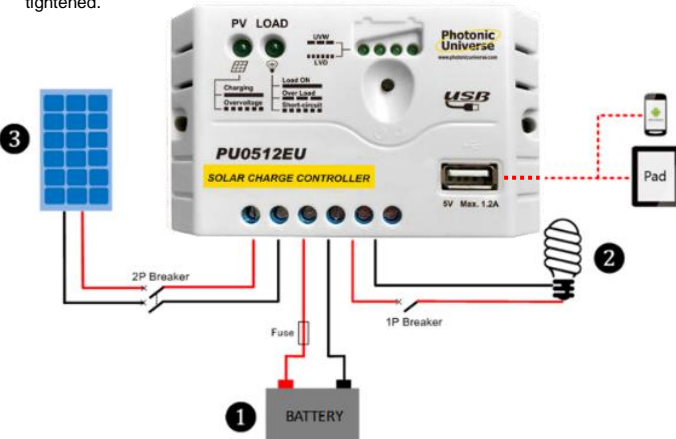

Figure 2: Connection diagram
①	Solar terminals	⑥	Load On/Off switch button
②	Battery terminals	⑦	Battery status LED indicator
③	Load terminals	⑧	Load status LED indicator
④	USB output interface	⑨	Charging status LED indicator
⑤	Mounting Hole $\Phi 4.5\text{mm}$
- Connect the system in the following order: ① battery → ② load → ③ PV array in accordance with Figure 2: "Connection Diagram" and disconnect the system in the reverse order: ③ → ② → ①.